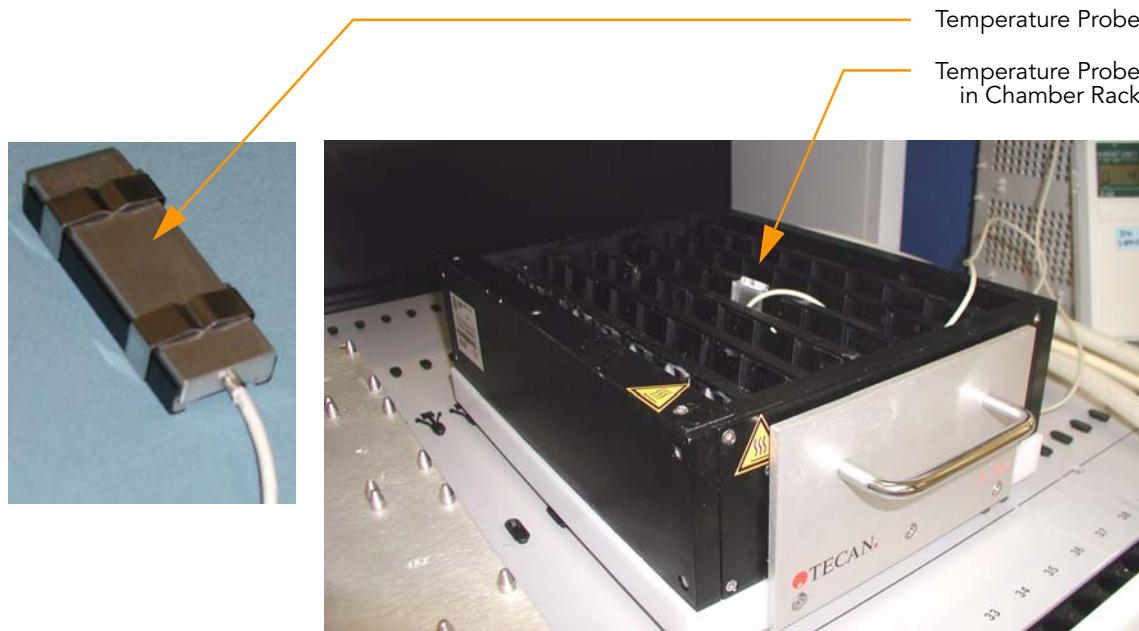

Figure 137 Illumina Temperature Probe in Chamber Rack
4. Use the Illumina Temperature Probe in several locations to ensure that the Chamber Rack is at 44°C (Figure 137).